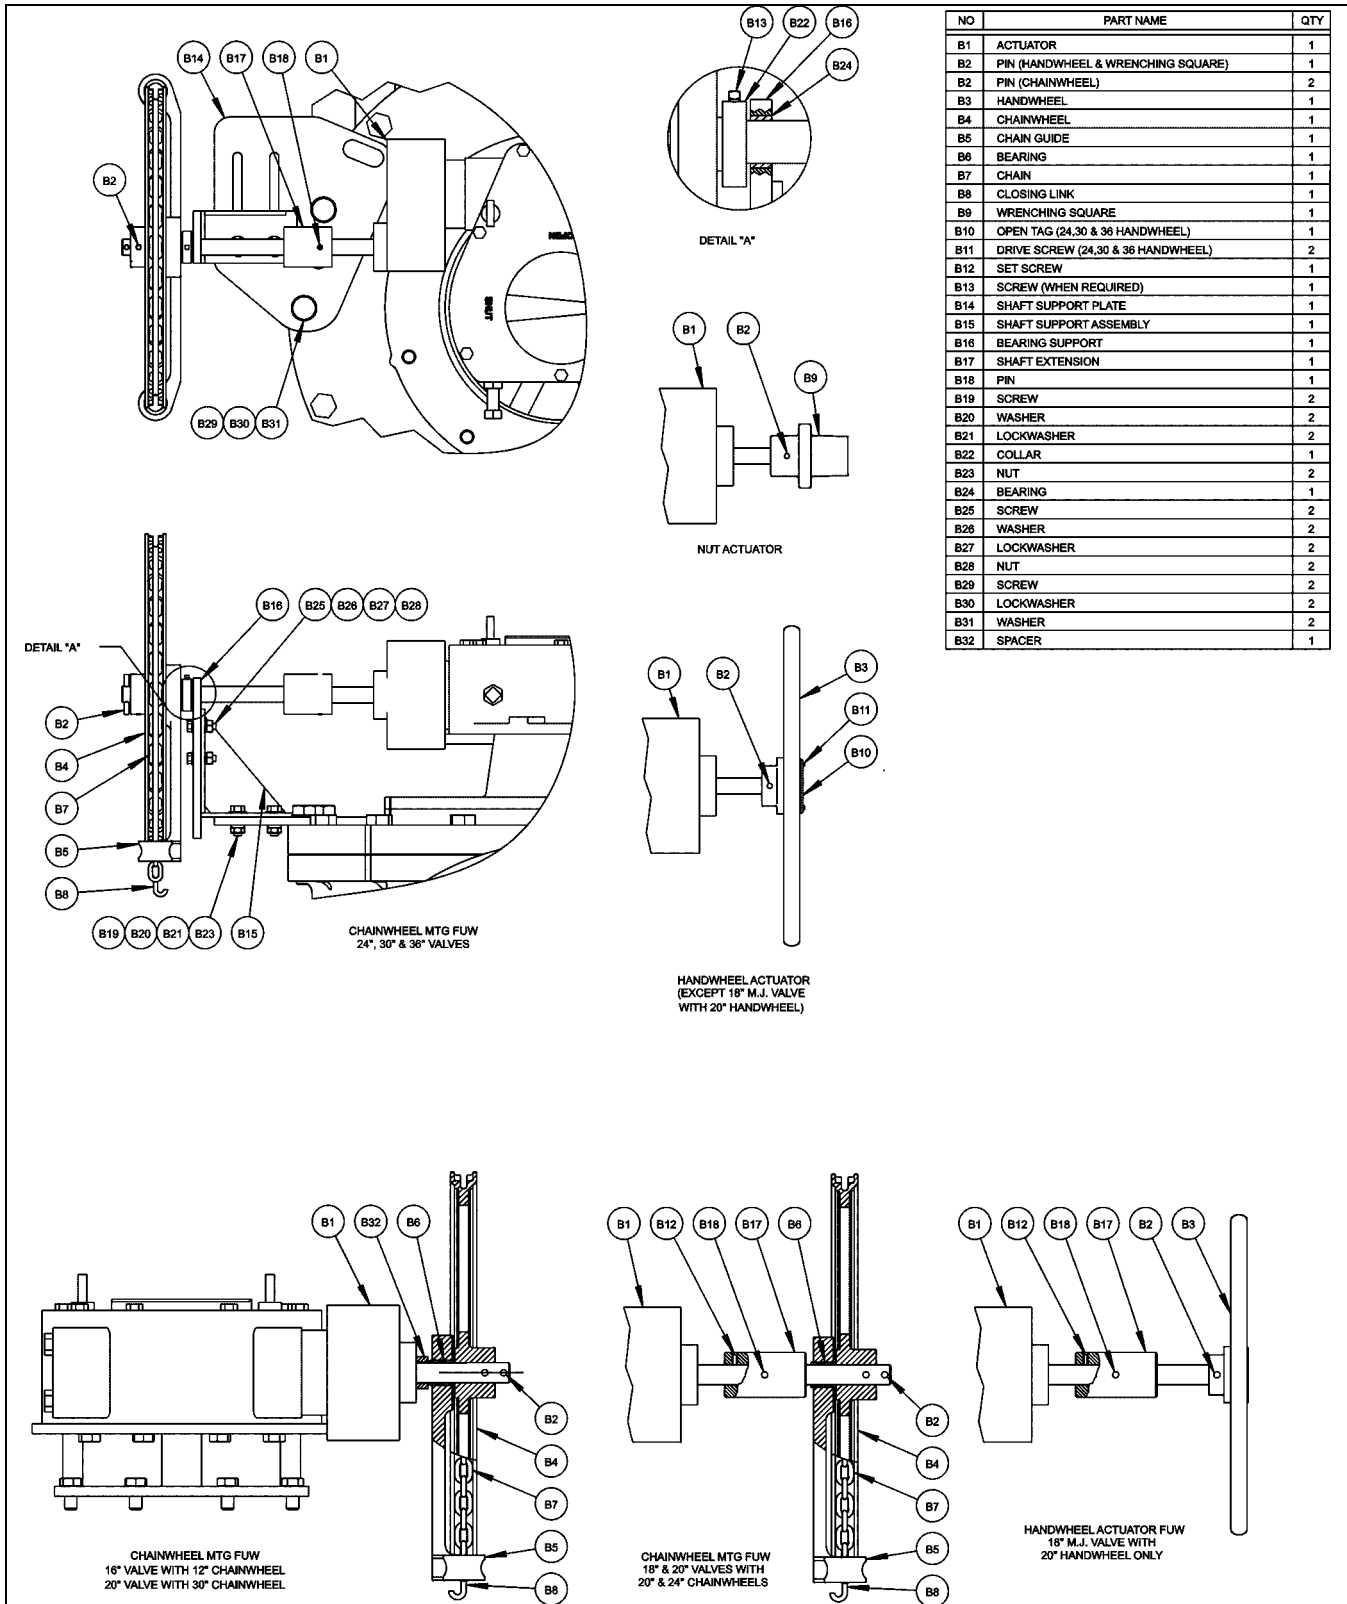

Figure 5 – Operator Component Identification
Refer to Figure 5 for component identification.
5. Align the second pin hole in the actuator shaft and the pin hole in the chainwheel hub. Support the hub of the chainwheel with a solid surface and connecting pin (B2) into position. See Figure 5 for location of connecting pin.
6. Support the hub of the chainwheel with a solid surface and drive the retaining pin (B2) into the remaining pin hole at the end of the actuator shaft. See Figure 5 for location of retaining pin.
5. Align the connecting pin hole in the actuator shaft and the pin hole in the chainwheel hub. Support the hub of the chainwheel with a solid surface and drive the connecting pin (B2) into position. See Figure 5 for location of connecting pin.
9. Align the second pin hole in the shaft extension (B17) and the pin hole in the chainwheel hub. Support the hub of the chainwheel with a solid surface and drive the connecting pin (B2) into position. See Figure 5 for location of connecting pin.
10. Support the hub of the chainwheel with a solid surface and drive the retaining pin (B2) into the remaining pin hole at the end of the actuator shaft. See Figure 5 for location of retaining pin.